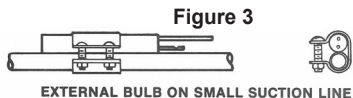

Figure 3
4. On lines smaller than 7/8", install bulb on top of pipe. See figure 3.